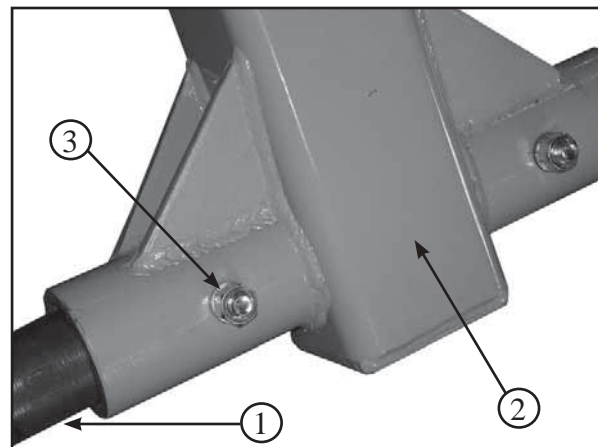

Figure 26 - Wheel Spindle Installation
3.1.5 SPINDLE & HUB INSTALLATION (Figure 26)